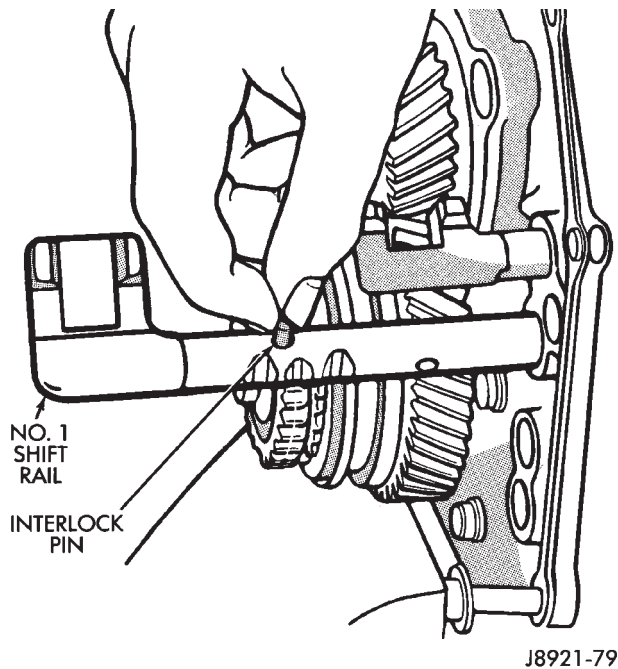

Fig. 72 Installing Interlock Pin In No. 1 Shift Rail
(7) Install smaller diameter interlock pin in No. 1 rail (Fig. 72).